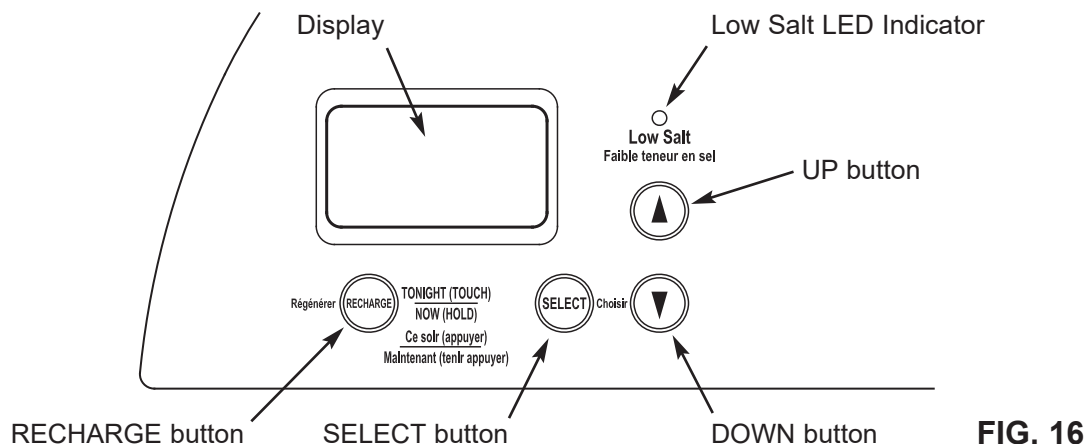

FIG. 16
5. Initiate a regeneration by pressing and holding for 3 seconds the RECHARGE button (see Figure 16 on page 12). The valve motor will start running and the valve will advance to the "Fill" position.